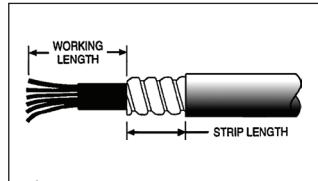

Figure 2
- When preparing the cable, trim the outer jacket to adjust the exposed armor strip length as indicated in the table (Figure 2).